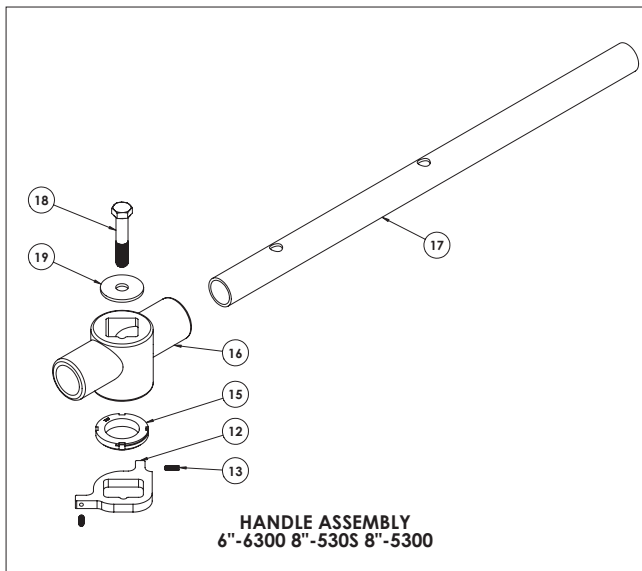

Figure 5 Handle Assembly
3. If equipped with a manual handle (ref. **Figure 5** – remove the cap screw (18) and washer (19)). Remove Tee (16) and handle (17) from the stem. Remove the stem nut (15), indicator stop (12), spring washers (9), compression ring (21), hex head cap screws (14 & 29) and spacer (31).